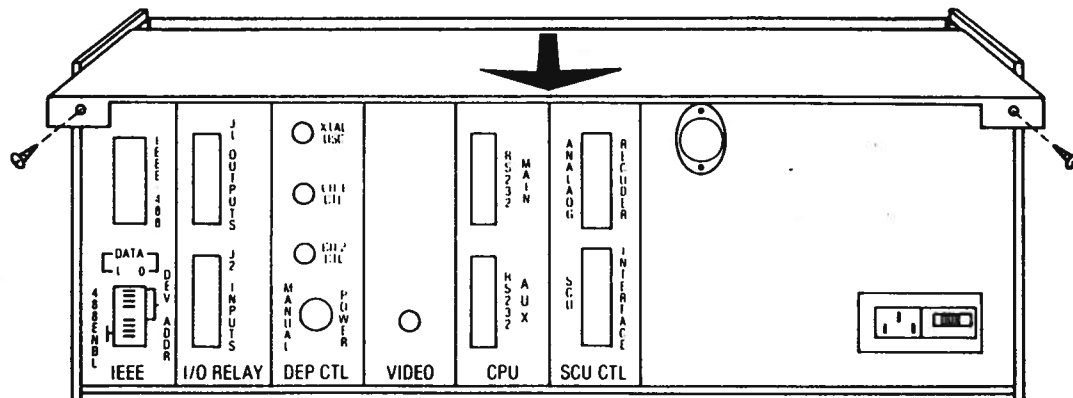

Figure 7.1 Operator's Console Cover
1. Remove the two screws in the upper corners of the rear panel so that the top of the Operator's Console can be removed by sliding it to the rear. Take the top completely off. (See Figure 7.1).